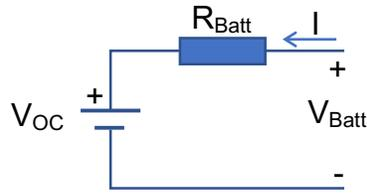

Fig. 4: Battery Equivalent Circuit
According to the ionic charge profile claimed method, several current pulses (conditioning pulses) are first applied at the start of the charge process in an attempt to assess the battery capacity (C) and the state of charge (SOC). The applied pulse charging current have variable ramp-up and ramp-down rates followed by rest periods¹. Various measurements of battery voltage and change in voltage due to change in current are made to assess the battery capacity. The method employs the simplified equivalent circuit model of a lead acid battery as shown in Fig. 4, where V_{OC} is the battery open circuit voltage, R_{Batt} , is the battery internal resistance, and V_{Batt} is the battery terminal voltage, which is typically what gets measured. The calculated capacity uses preset experimental weighted coefficients derived for lead acid batteries. Based on the calculated capacity, the charge rates is set to $C/4$ to $C/7$, depending on the state of charge of the battery (14% to 25%).